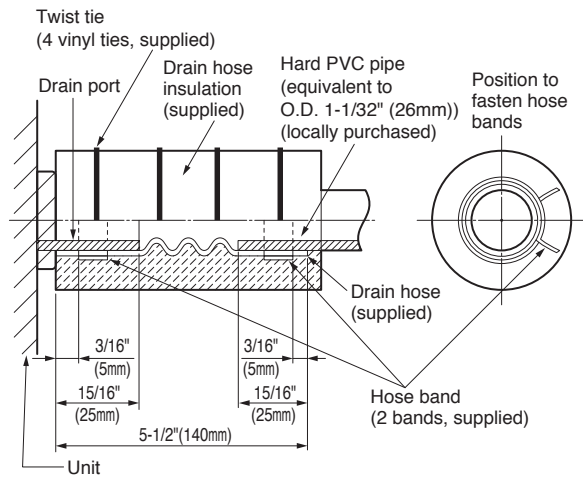

Fig. 6-5
- (1) Prepare standard hard PVC pipe (locally purchased O.D. 1-1/32" (26 mm)) for the drain and use the supplied hose band to prevent water leaks. (Fig. 6-5)
- (2) To install the drain hose, first place 1 of the 2 hose bands over the unit drain port and the other hose band over the hard PVC pipe (not supplied). Then connect both ends of the supplied drain hose. (Fig. 6-5)
- (3) On the unit drain side, grasp the hose band with pliers and insert the drain hose all the way to the base.
- (4) Wrap the hose with the supplied drain hose insulation and use the 4 twist ties so that the hose is insulated with no gaps.